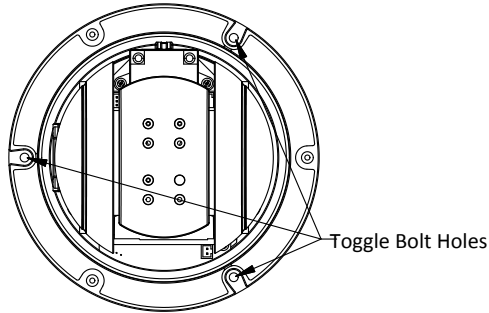

Figure 2-4 Toggle Bolt Holes
- 2) Insert the bolts into the screw holes on the speed dome as shown in Figure 2-4.